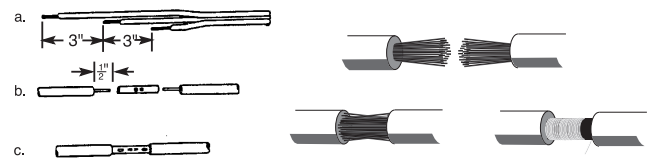

Figure 1A: Cable Splicing: Solid Wire, Stranded Wire
Prepare the cable and make the mechanical connections (Figure 1A) and splices as follows:
- BUTT CONNECTORS (Figure 1A): Insert wires into connector until insulation butts up against connector. Crimp connector to wires with a pair of crimping pliers. Pull on cable to make sure the connection is solid and tight.
- SOLDERED CONNECTIONS (Figure 1A):